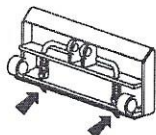

Figure 3. Lock pin connection
**NOTICE!** To ensure proper connection, verify that bottoms of lock pins are visible under attachment receiver plate. (figure 3)